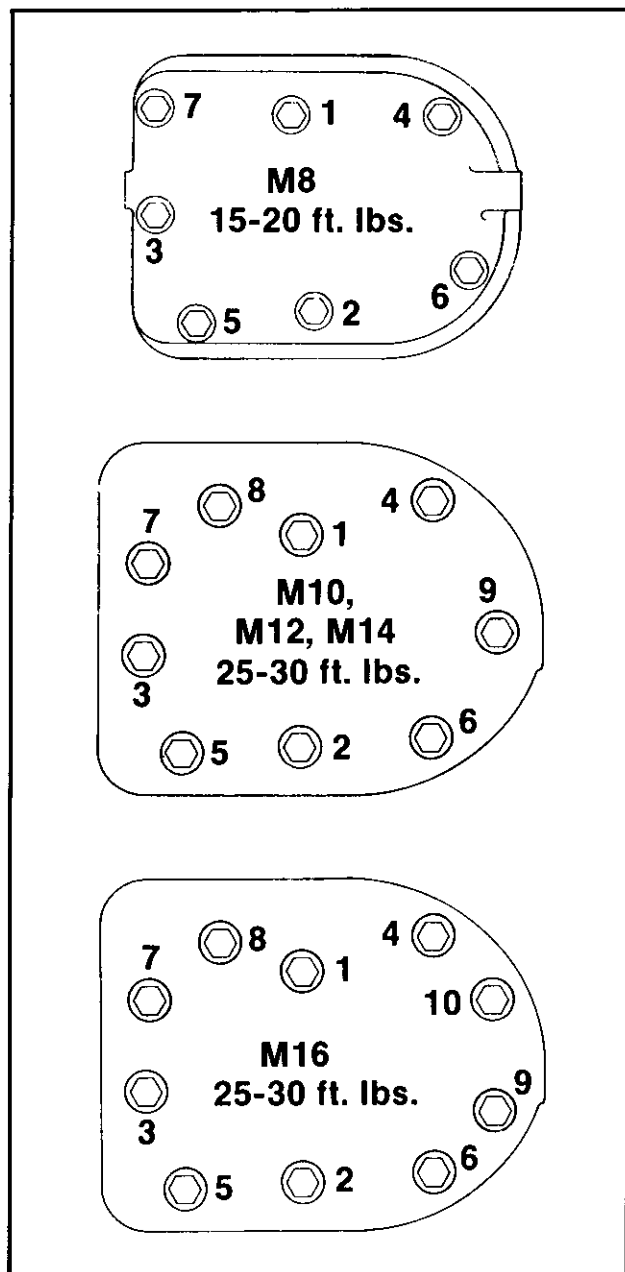

Figure 3-10. Cylinder Head Fastener Tightening Sequence.
3. Reinstall the cylinder head using a new gasket. Torque the cylinder head fasteners in sequence to the values specified in Figure 3-10.